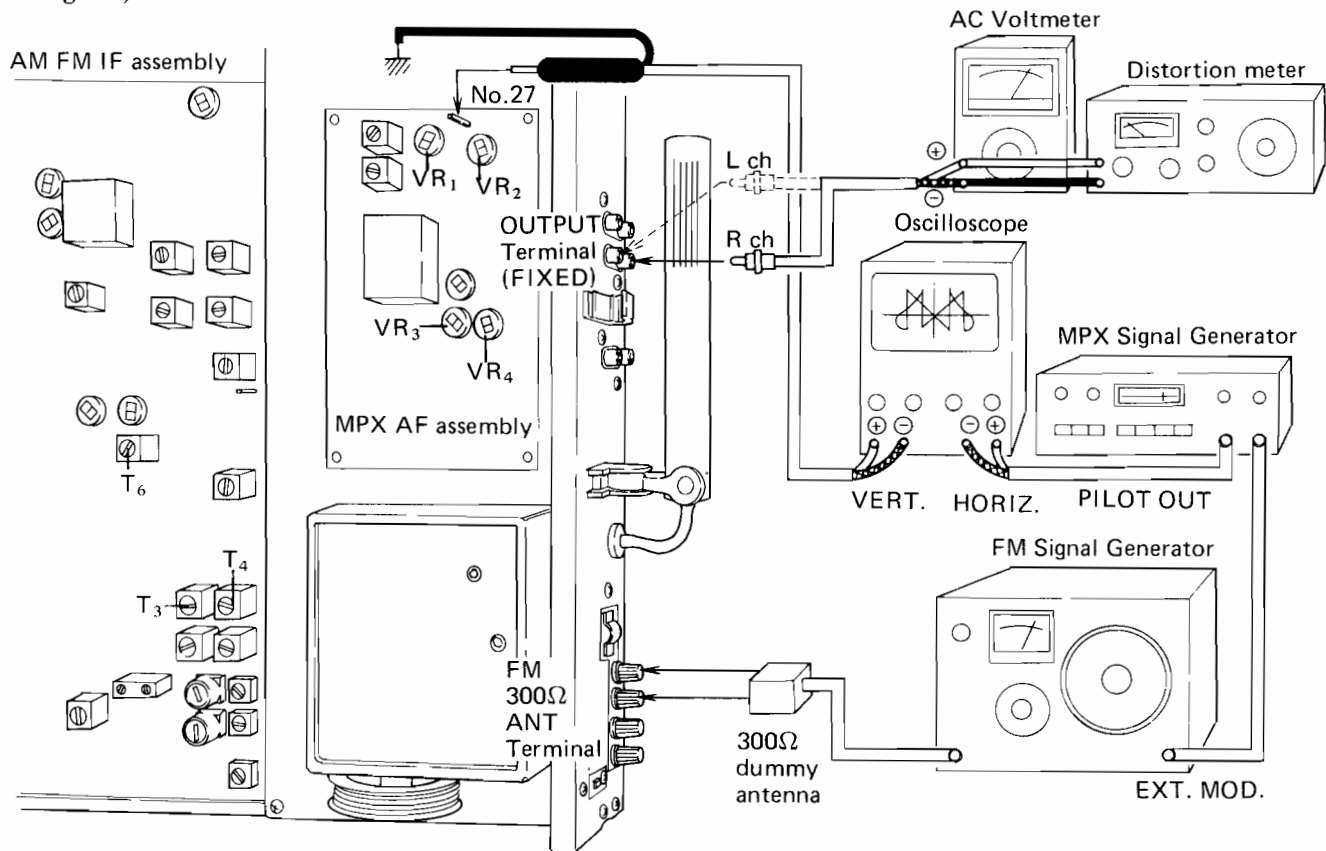

Fig. 17
1. Connect the test instruments as shown in Fig. 17.